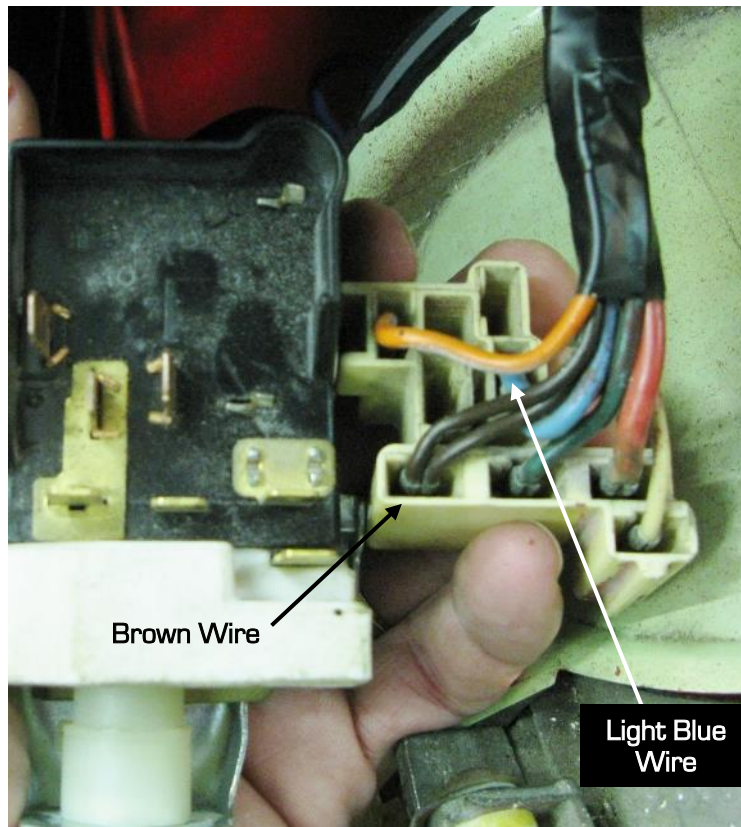

Figure 30 – Stock Headlight Switch
29. Locate the light blue and brown wires and remove the terminals from the connector using a terminal removal tool or a small flat blade screwdriver (Figure 30 on the next page).